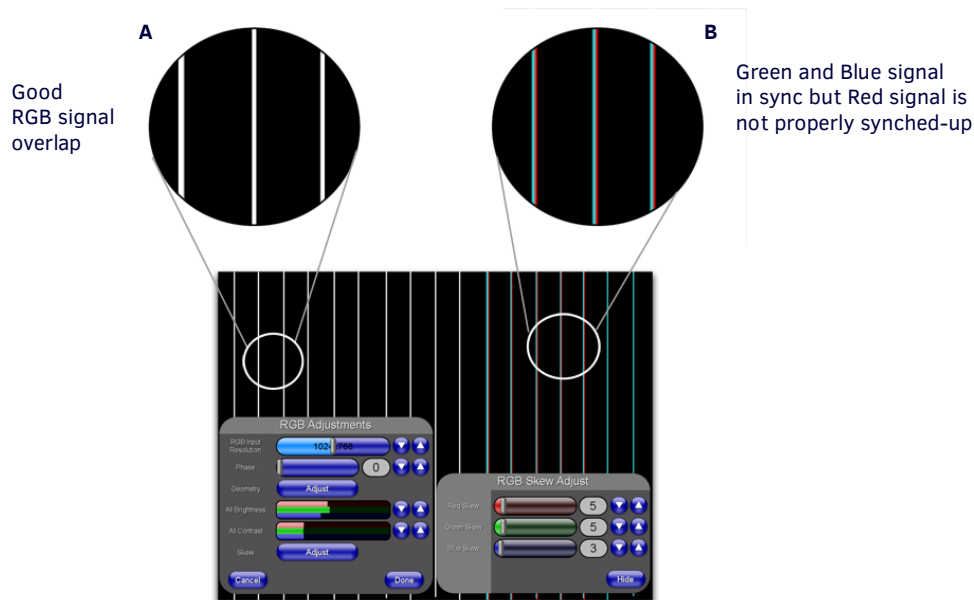

FIG. 111 Full Screen Edit Mode - showing skew adjustment scenario
- Do your skew adjustment using an image which contains single pixel-wide white vertical lines (such as those seen in FIG. 111). This allows you to verify that your RGB signals are being received at the same time. The lines in circle **A** of FIG. 111, show how all three signals are in sync and overlap to produce the single white line. The lines in circle **B** of FIG. 111, show how the Red signal is being delivered with a slight delay and is "throwing off" the color of the line. Altering the Red Skew value can compensate for this delay and re-align the image.